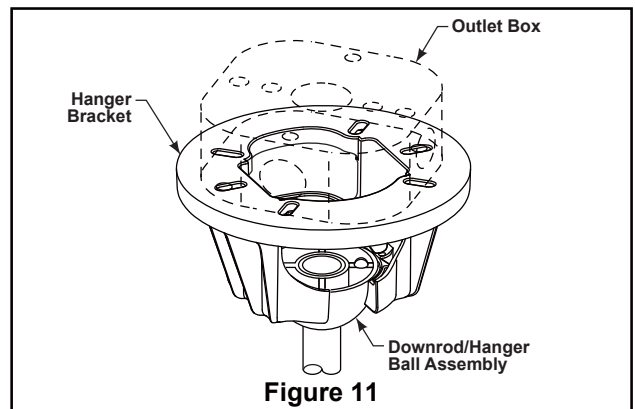

Figure 11
- 2. Carefully lift the fan and seat the downrod/hanger ball assembly on the hanger bracket that was just attached to the outlet box. Be sure the groove in the ball is lined up with tab on the hanger bracket. (Figure 11)